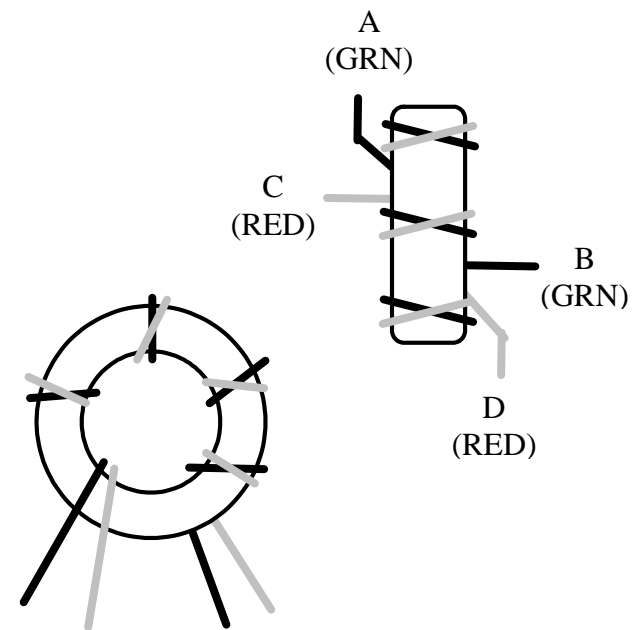

Figure 6-27
□ Wind the twisted wires onto a 1/2" (12.7 mm) dia. ferrite core (FT50-43), using exactly 5 turns and covering about 85% of the core. Figure 6-27 shows how the winding should look. The leads of T3 are labeled with letters A through D on the PC board to avoid confusing them with the numbered leads of T2 and T4.
□ Separate T3's leads as shown in Figure 6-27. Strip and tin the leads, being careful not to let the red/green wire pairs short together.